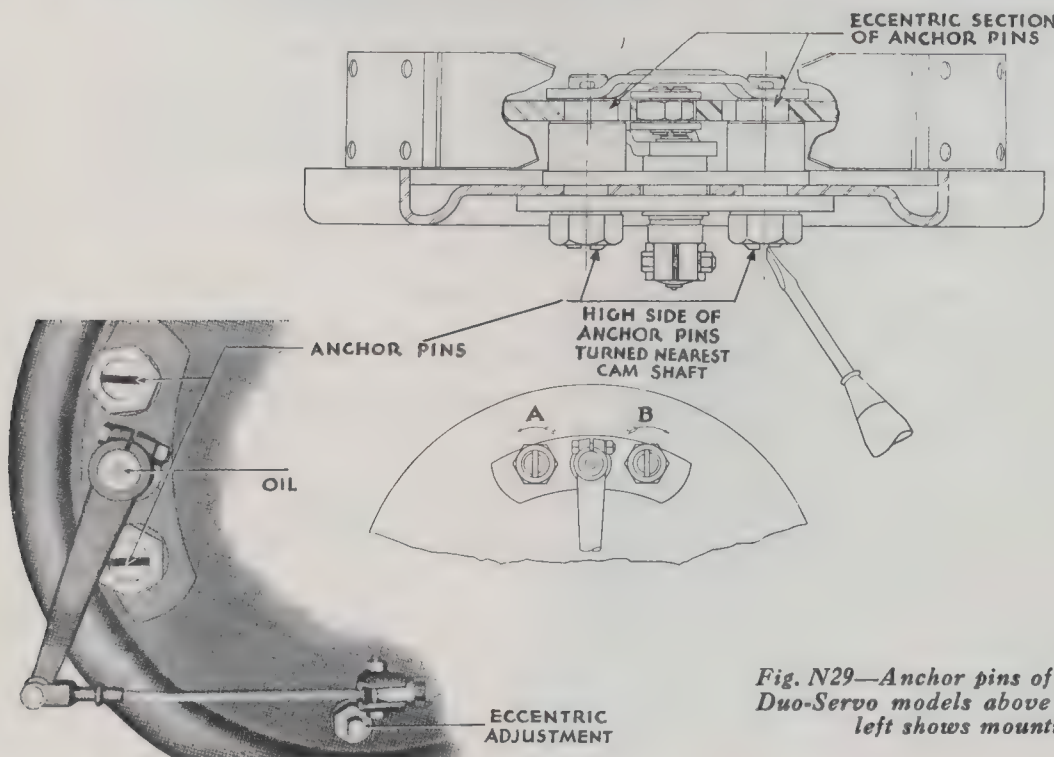

Fig. N29—Anchor pins of the eccentric type as used on Duo-Servo models above 16 inches. View at extreme left shows mounting at left rear brake
1. Jack up all four wheels. Loosen 8 anchor lock nuts and with screwdriver turn the pins so that the **high** side of each is nearest the camshaft as in Fig. N29.
4. Turn anchor pin "A," Fig. N29, counterclockwise until wheel shows slight drag, then turn in **opposite** direction until wheel is just free of drag. Lock in this position. Repeat the operation on anchor "B" but turn in **opposite** direction to "A." Do the same on other 6 anchors.